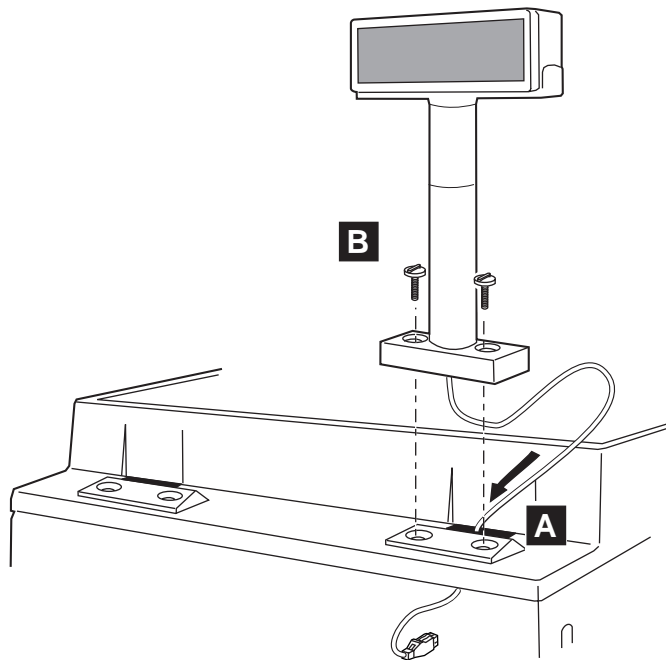

Figure 69. Routing the cable
4. Route the display cable through the rear of the POS terminal ( **A** in Figure 69), and screw the post to the POS terminal ( **B** ).